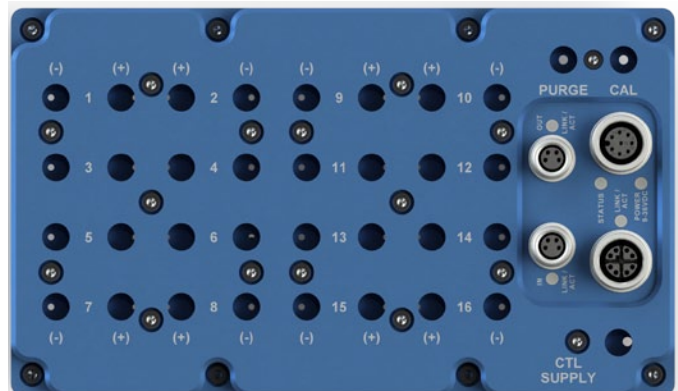

FIGURE 2.4 - DSA5000 INDIVIDUAL REFERENCE 16IR TOP VIEW
For true differential pressure measurement applications where the internal calibration valve is not required to control the reference pressure, the DSA5000 Individual Reference 16IR provide two (2) discrete inputs for each sensor (positive and negative), and 16 channels total (32 total inputs). A calibration valve is provided for each group of eight (8) sensors; however, unlike the DSA5000 Standard 16Px or True Differential 8DPx modules, a separate reference port is provided for all sixteen (16) transducers which are not controlled by the internal calibration valves. This means that a zero offset calibration (CALZ) must be performed with no pressure applied to the module, and calibrations must be performed using an external manifold to tie all reference ports together. Figure 2.4 depicts the top panel of a DSA5000 Individual Reference 16IR module.